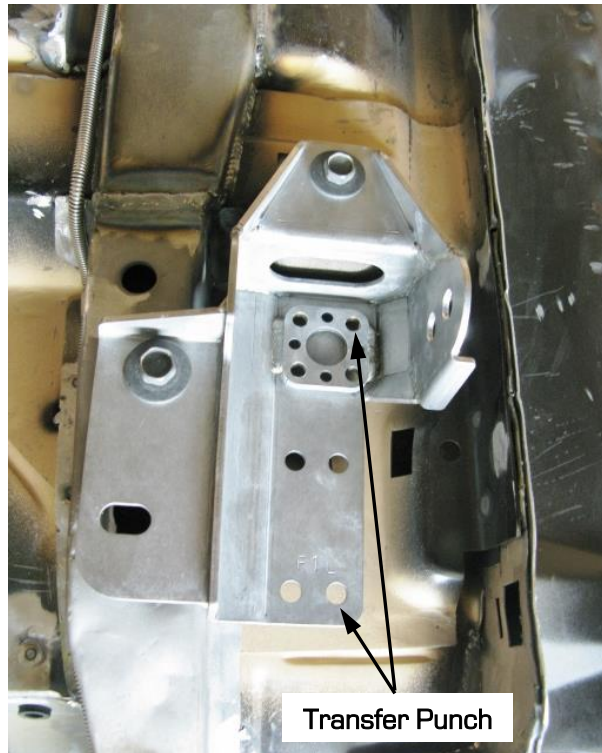

Figure 5 – Transfer Punch 2 Holes
11. With both DSE pockets installed into the vehicle, square the pockets to the vehicle. Using leaf springs, install the rear spring eye into the rear shackles and tighten the shackle bolts. Leaving the two stock bolts holding in the DSE pocket assemblies loose, this should square up the DSE pockets. Tighten the two stock bolts when the DSE pockets are square to the vehicle (Fig. 5).
14. With the DSE pockets in the correct location, transfer punch the front and rear outboard holes on the DSE pockets to the floor pan (Figure 5 on the next page).